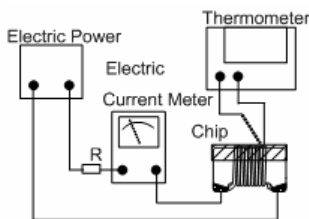

Fig. 5.3.5-1
- d. Definition of Rated Current (Ir): Ir is direct electric current as chip surface temperature rose just 15°C against chip initial surface temperature (Ta) (see Fig. 5.3.5-2).